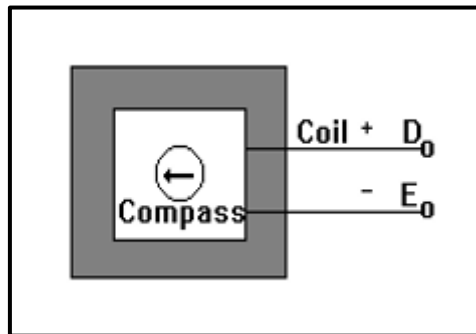

Figure 8.1
1. Make the connection shown in Figure 8.1:
From Ohm's law, if the current in a resistor varies sinusoidally with time that is, if $i = I_m \cos(\omega t + \theta_i)$ the voltage at the terminals of the resistor, as shown in Figure 8.1 is